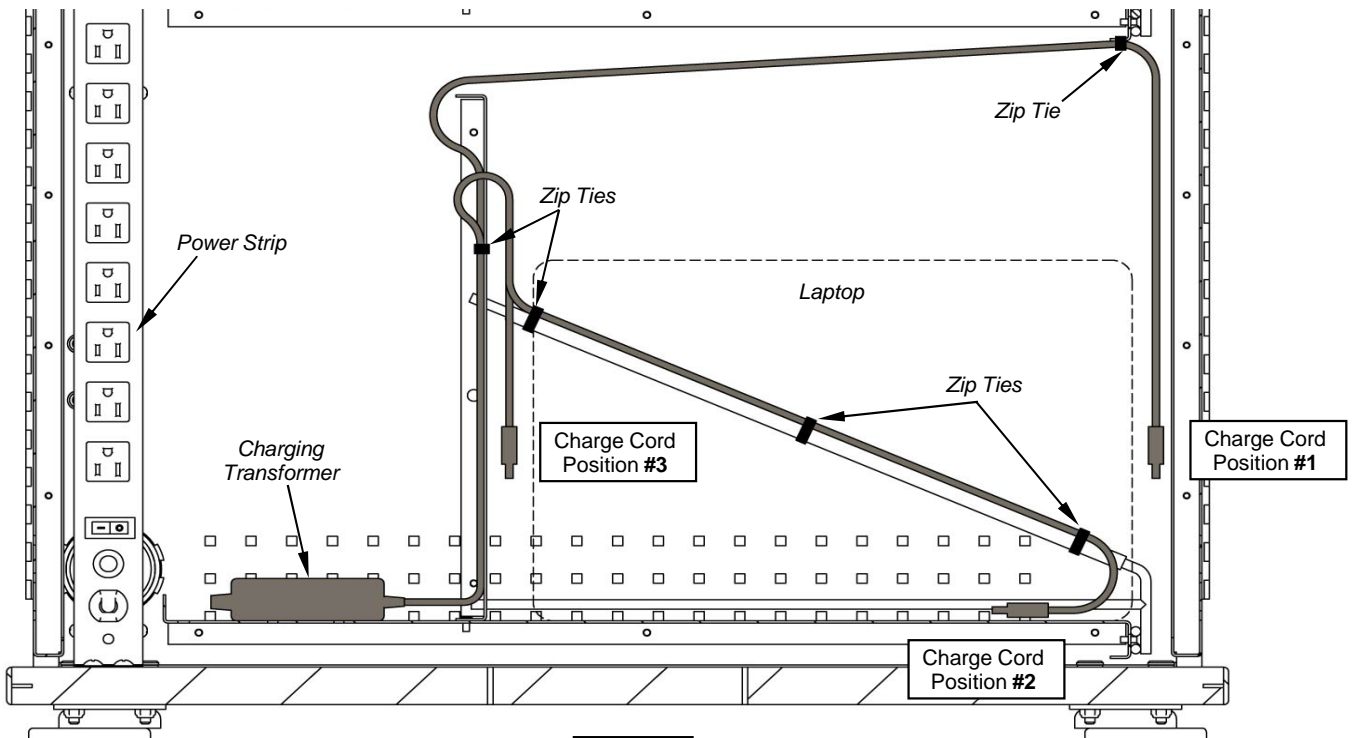

Figure 2C
- Charge cords can be routed to the laptops several different ways depending where the charge jacks are located on your particular laptops. **Figure 2C.** Cords can be anchored with the included zip ties as shown.